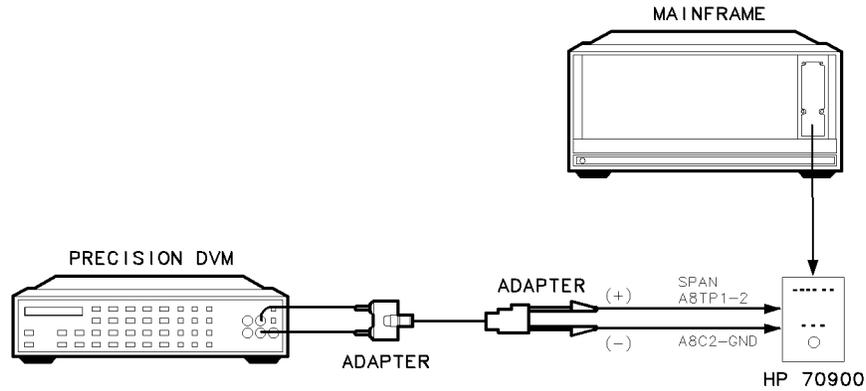
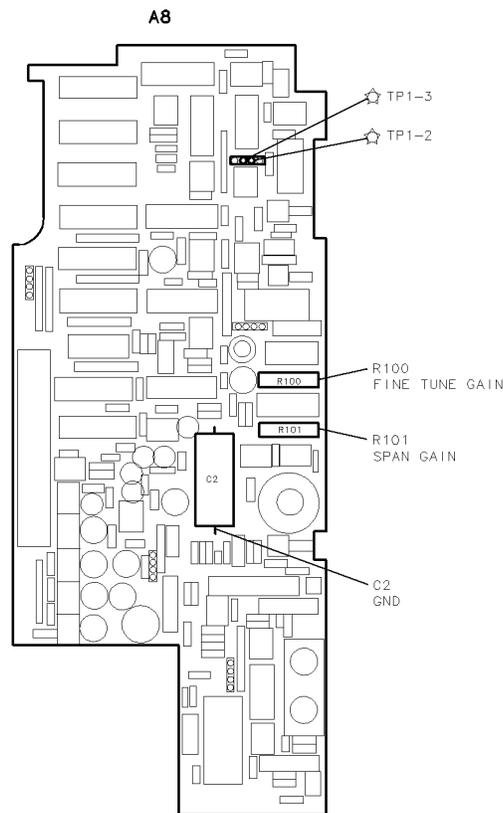

Figure 6-28. Equipment Setup for Adjustment 17. Frequency Control Voltage References
Figure 6-29. Locations for Adjustment 17. Frequency Control Voltage References
1. Remove the HP 70900B local oscillator source's cover and connect the equipment as illustrated in Figure 6-28. Connect the DVM positive lead to A8 frequency control (TP1-2) and the negative lead to the grounded side of A8 frequency control C2. See Figure 6-29.